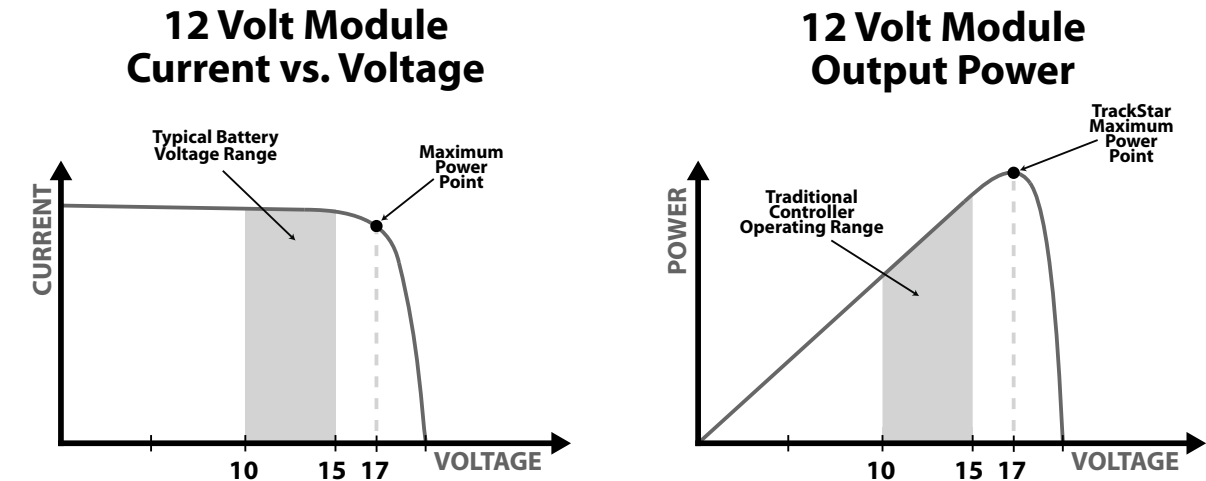

Figure 4-1. Nominal 12 Volt Solar Module I-V curve and output power graph.
Traditional controllers connect the solar module directly to the battery when recharging. This requires that the solar module operate in a voltage range that is usually below the module's  $V_{mp}$ . In a 12 Volt system for example, the battery voltage may range from 10 - 15 Vdc, but the module's  $V_{mp}$  is typically around 16 or 17 Volts. Figure 4-1 shows typical current vs. voltage and power output curves for a nominal 12 Volt off-grid module.
The array  $V_{mp}$  is the voltage where the product of output current and voltage (Amps x Volts) is greatest, which falls on the “knee” of the solar module I-V curve as shown on the left in Figure 4-1.
The TriStar MPPT 150V provides seven (7) standard battery charging settings that are selectable with the settings DIP switches (see Figure 4.1 above). These standard charging settings are suitable for lead-acid batteries ranging from sealed (gel, AGM, maintenance-free) to Flooded and L-16 cells. In addition, an 8th charging setting provides for custom set-points using MSView™ PC software.